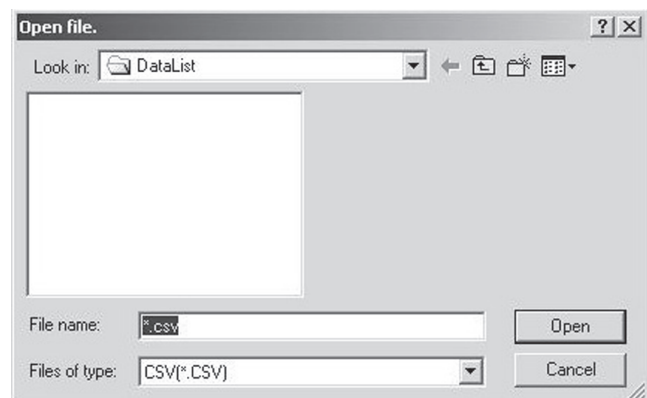

Fig.55
2. The “Open” dialog box (Fig.55) appears.